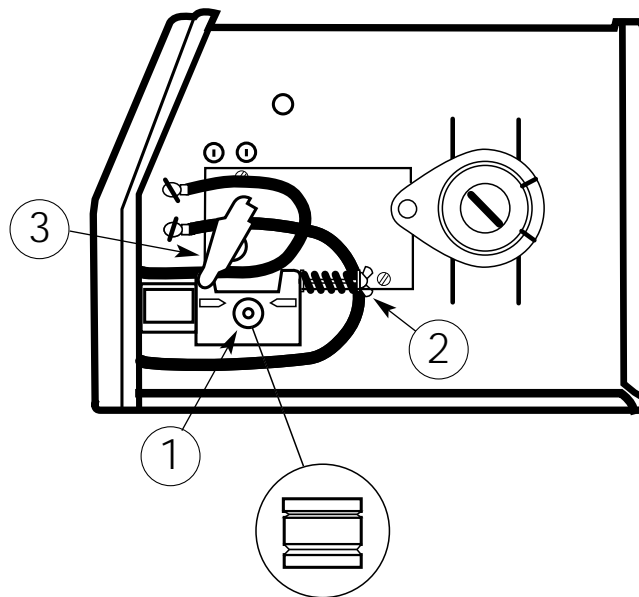

FIGURE D.1
The drive roll, Figure D.1 Item 1, has two grooves; one for .023" – .025" (0.6 mm) solid steel electrode and a larger groove for .030" (0.8 mm) solid and .035" (0.9 mm) flux-cored steel electrode. As shipped, the drive roll is installed in the .023"-.025" (0.6 mm) position.
2. Release the spring-loaded idle arm tensioner, Figure D.1 Item 2, and lift the idle roll arm, Figure D.1 Item 3, away from the drive roll.